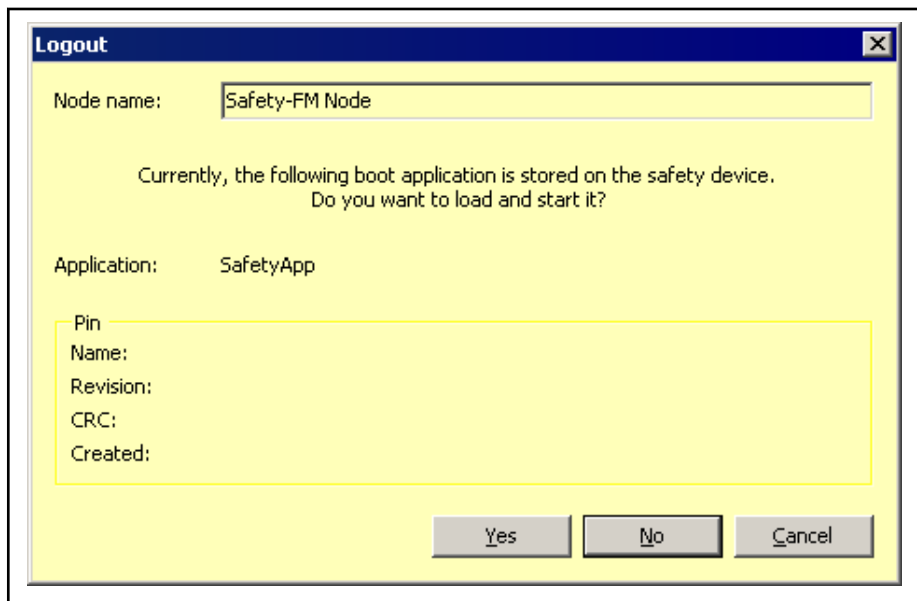

Fig. 8-4: Logout for different boot application and download application
- A dialog box asks if the stored boot application should be loaded and started (see fig. 8-4 "Logout for different boot application and download application" on page 120).